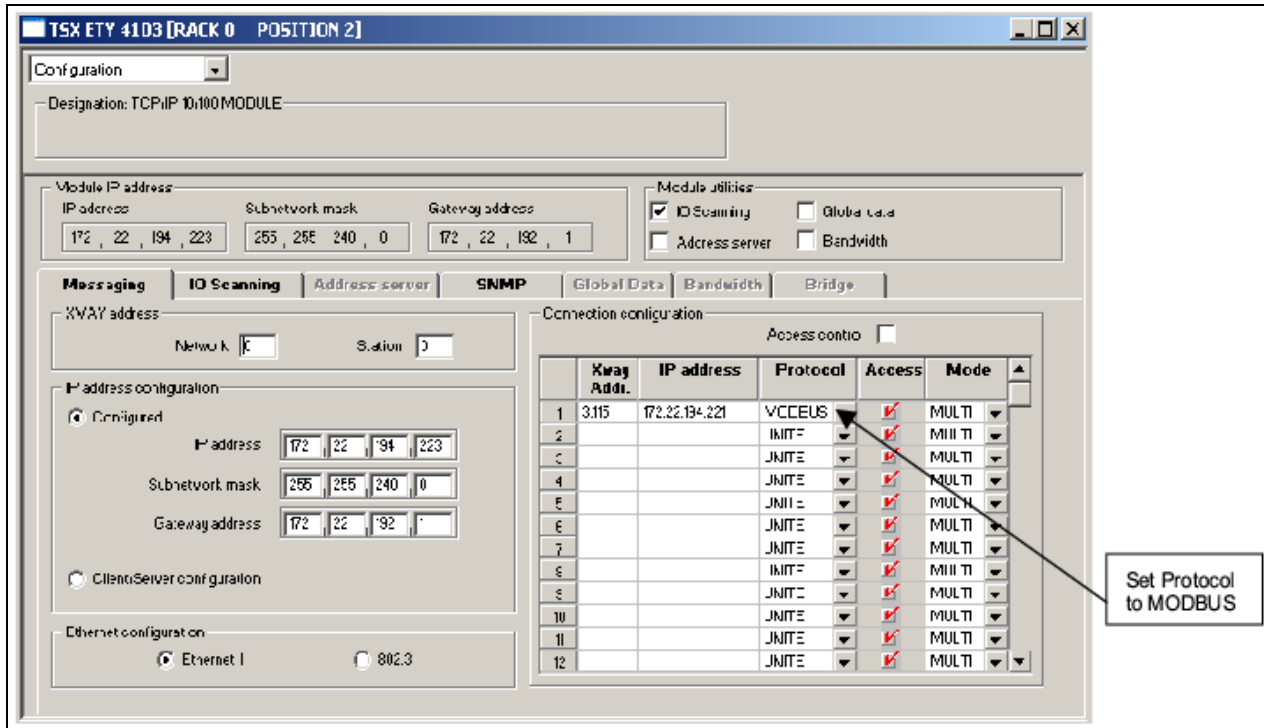

Fig. 3.4 Protocol
4. Set the protocol to MODBUS in the Protocol field in the Connection Configuration section. See Fig. 3.4.